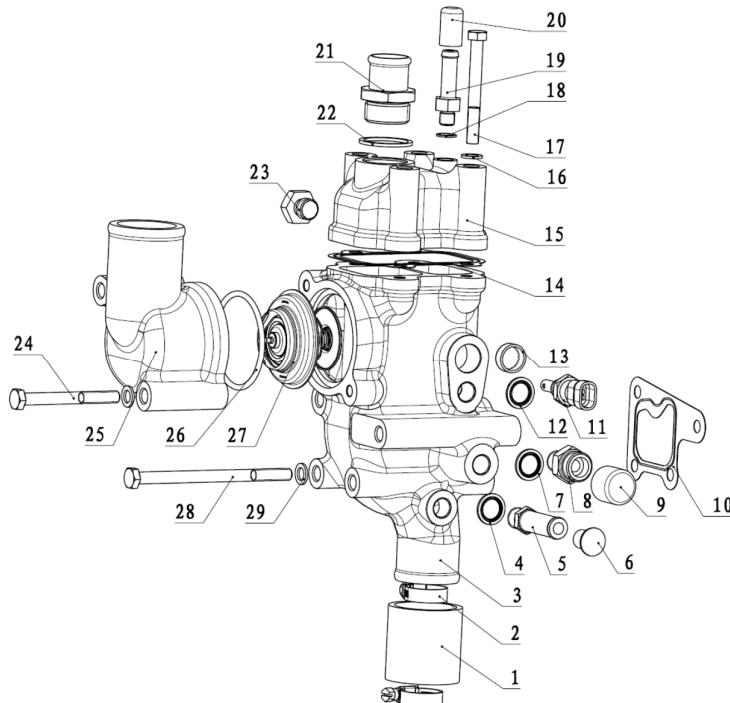

Figure 4-8 Structure figure of water discharge pipe
9. If you have to remove more, refer to Figure 4-8.